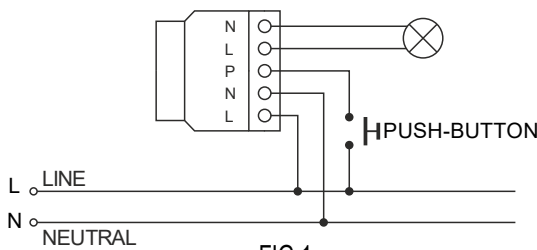

FIG.1
The dimmer must be connected according to the diagram shown in FIG.1. In particular:
Once connected a normally open (NO) push-button as in FIG. 1, it is possible to dimmer the load (incandescent lamps and/or dimmable LED lamps with phase-cut output) according to the following modes: